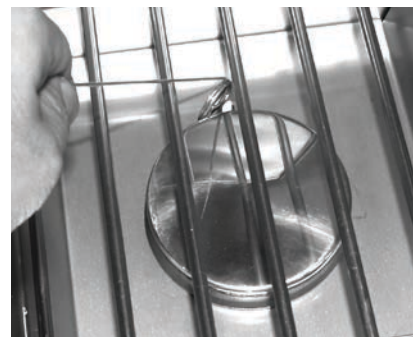

Fig. 23-2 Manual lighting
2. Insert either a burning long-barrel butane lighter, a burning long-stem match, or a burning match held by a wire extension holder through the cooking grid opening to the burner (Fig. 23-2). Hold the flame against the edge of the burner.
4. If the burner does not light within five (5) seconds of turning the control knob, **immediately depress the knob and turn the valve to OFF**. **WAIT FIVE (5) MINUTES** before repeating steps 2 through 4 of the MANUAL LIGHTING instructions.